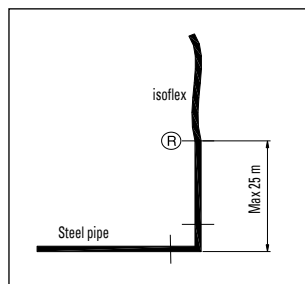

fig. 4
- When connecting isoflex to steel pipes that are not fixated, the rules shown in fig. 4 must be observed.